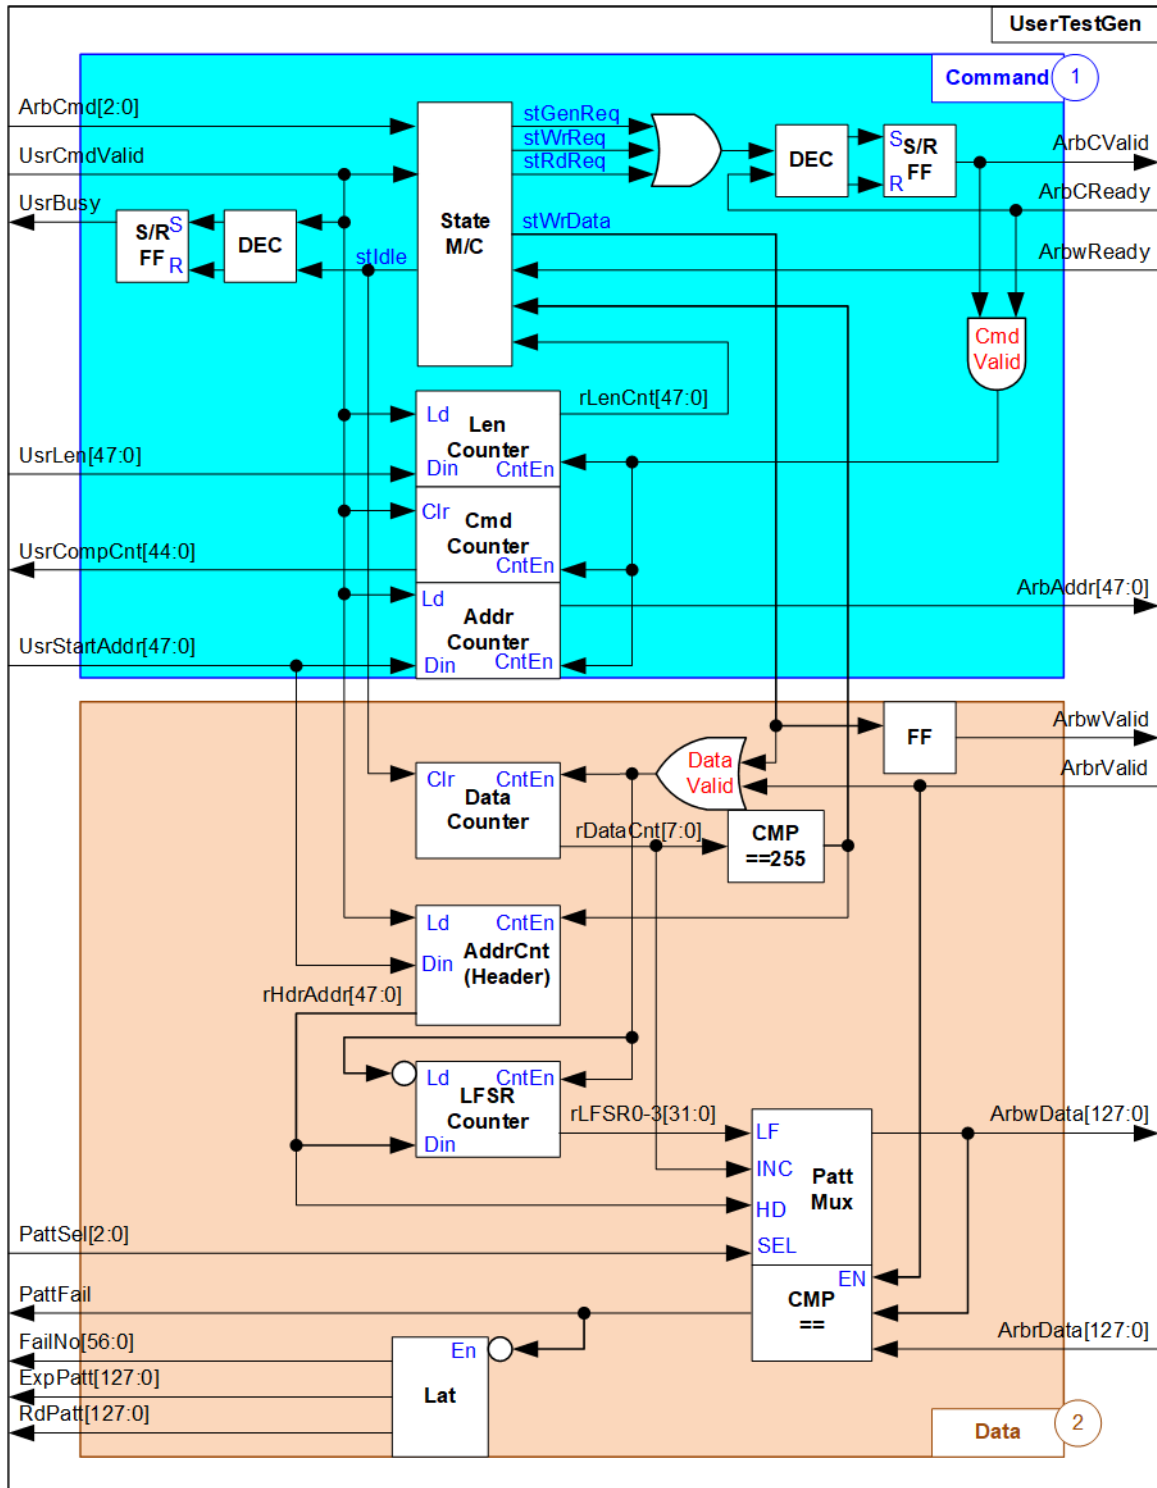

Figure 2-2 UserTestGen block diagram
As shown in Figure 2-2, UserTestGen logic design can be divided to Command block (1) and Data block (2).